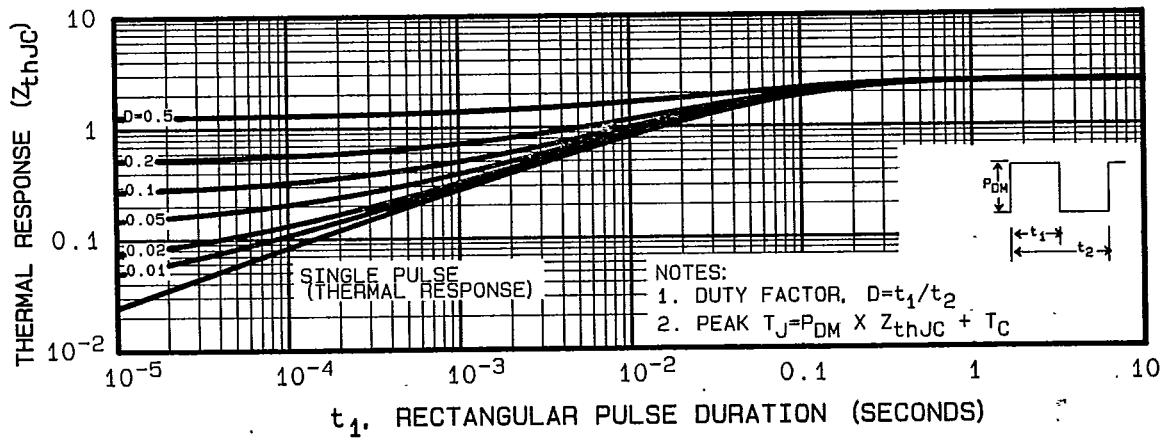

Fig. 5 — Maximum Effective Transient Thermal Impedance, Junction-to-Case Vs. Pulse Duration
① Repetitive Rating; Pulse width limited by maximum junction temperature (see figure 5). Refer to current HEXFET reliability report.
② ISD ≤ 3.3A, dI/dt ≤ 65A/μs, VDD ≤ BVDSS, TJ ≤ 150°C Suggested RG = 18Ω
③ K/W = °C/W